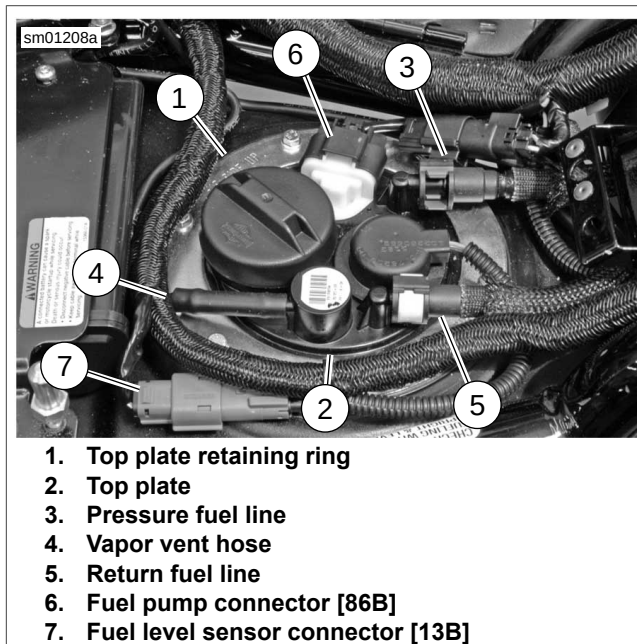

Figure 4-22. Fuel Tank Top Plate
- a. See Figure 4-22. Disconnect fuel pump connector (6) [86B] from fuel module assembly.
11. See Figure 4-22. Remove six fasteners from top plate retaining ring (1) and remove retaining ring.
- See Figure 4-22. Mate fuel pump connector half (6) [86B], and fuel level sensor connector (7) [13B] while supporting the top plate connector half with opposite hand.
- See Figure 4-22. Install return fuel line and larger pressure fuel line while supporting mating port. Press lines on until an audible click is heard that indicates engagement.